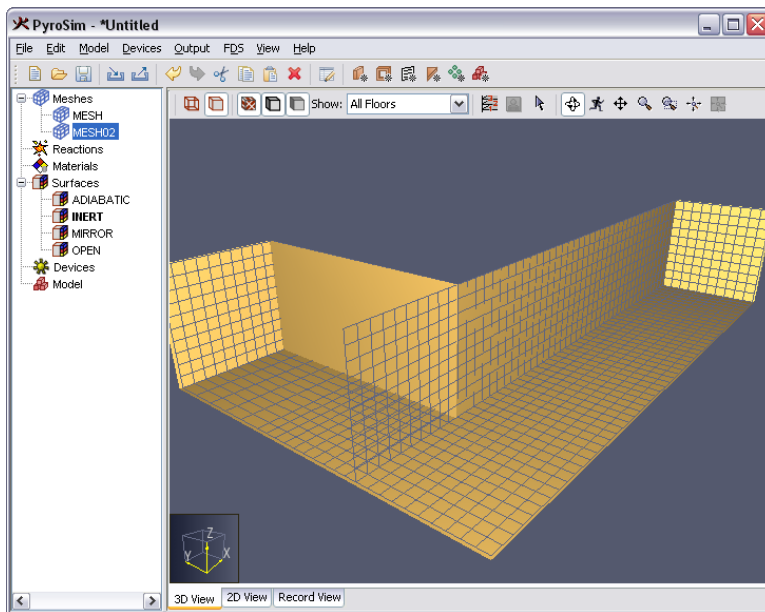

Figure 4.3. 3D display of first and second mesh
- If the geometry of the problem has corridors such as shown in Figure 4.3, using multiple meshes can significantly reduce the number of cells and the solution time.